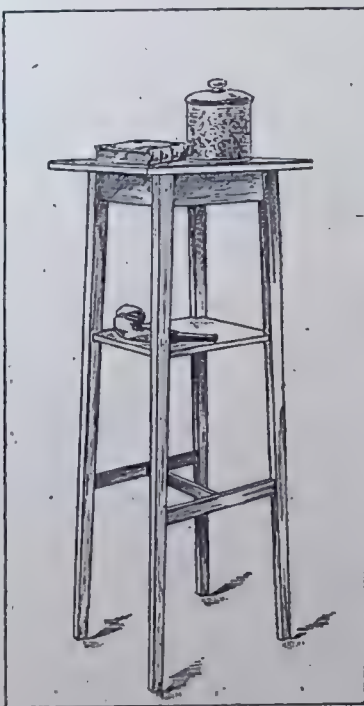

FIG. 4.—SMOKER'S TABLE.
HERE, again, in Fig. 4, is shown a graceful little table which will be found useful even in homes where the consumption of tobacco may not be an hourly practice. For the occasional cup of tea, or as a handy table at the side of one's arm chair, it is just the item of furniture that every house needs. Standing at a convenient height, 26 ins., it has a top 10½ ins. square. There is a light shelf below, and the whole article with its tapering legs has a dainty appearance when finished. The few parts required are these, the sizes given being practically net. For lettered diagrams see next page
RAILS (E).—In the perspective sketch, Fig. 4, two cross rails and one stretcher rail are shown, but if desired four cross rails may be used. The former arrangement is preferable. The rails may finish